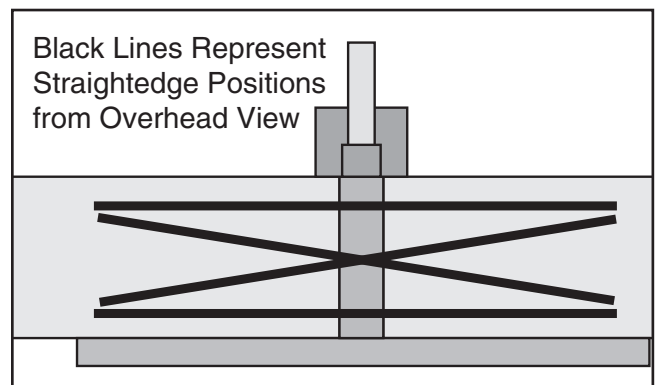

Figure 62. Straightedge positions for checking infeed/outfeed table parallelism.
3. Place straightedge in positions shown in **Figure 62**. In each position, straightedge should sit flat against both outfeed table and infeed table.